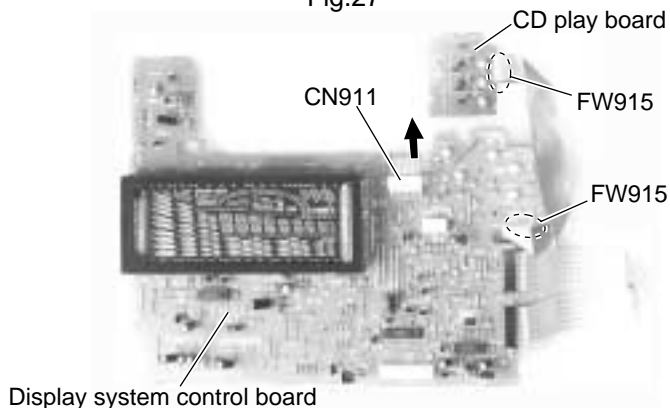

Fig.28
■ Removing the CD play board (See Fig.28 and 29)